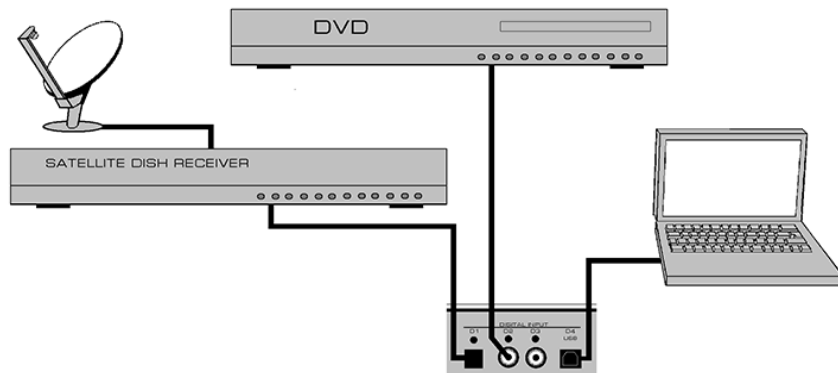

Figure 2: Nëo 350P Optional Digital Inputs – connection examples
There are two (2) different settings available for setting the resistive load; 100Ω and $47k\Omega$ which are represented by jumper sockets R12 for the left channel and jumper socket R29 for the right channel (refer to figure 2 – section labeled "LOADING"). The factory default setting is $47k\Omega$, therefore both jumpers will be found in each of the two left most sockets.
There are two (2) different settings available for the capacitive load; $0pF$ and $100pF$ which are represented by jumper sockets C9 for the left channel and jumper sockets C17 for the right channel (refer to figure 2 – section labeled "LOADING"). The factory default setting is $100pF$ for a moving magnet cartridge, therefore both jumpers will be found in each of the two right most sockets.
There are two (2) different settings available for gain level. They are $40dB$ for MM cartridges and $60dB$ for MC cartridges, which are represented by jumper socket J18 for the left channel and jumper socket J24 for the right channel (refer to figure 2 – section labeled "GAIN"). The factory default setting is for a MM cartridge, therefore both jumpers will be found in each of the two right most sockets labeled MM; ***It is highly recommended that you do not use the jumpers labeled MC for an MM cartridge as this will overload the 350P.*** When using a MC cartridge, you should insert the supplied jumpers into each of the two left-most sockets labeled MC.
The rear panel will look similar to Figure 2 (above). There are two (2) pairs of balanced analog inputs on XLR connectors labeled “B1” and “B2” with their respective left and right channel connections beside each other. Immediately below are four (4) pairs of single-ended analog inputs on RCA connectors labeled CD, A1, A2/HT and A3/PH. The RCA input and output connectors on the rear panel have been color coded: ‘white’ for the left channel and ‘red’ for the right channel. If your **Nêo 350P** is equipped with the optional phono section, the input labeled ‘A3/P’ must be used to connect your turntable interconnect leads to this preamplifier. If you don’t have the optional phono section installed, then this input can be used in the same way as CD, A1 and A2 inputs. This preamplifier is also equipped with a single-ended monitor loop; the input and output connectors for each channel are located to the right of the four pairs of single-ended analog inputs.